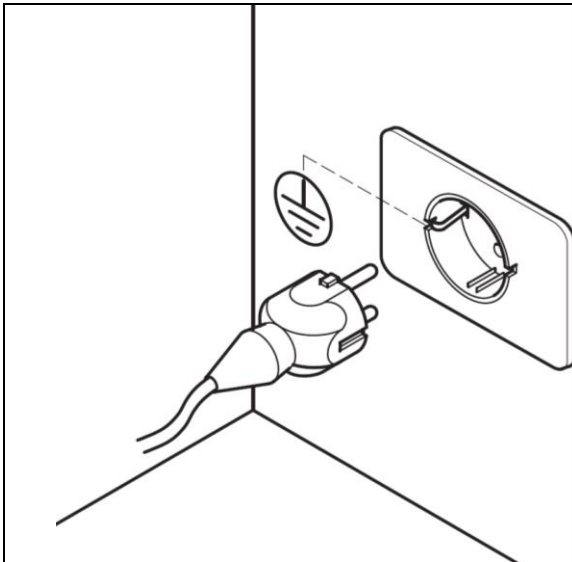

Figure 9
- Plug in the cooker into the socket with grounding. (Figure 9)